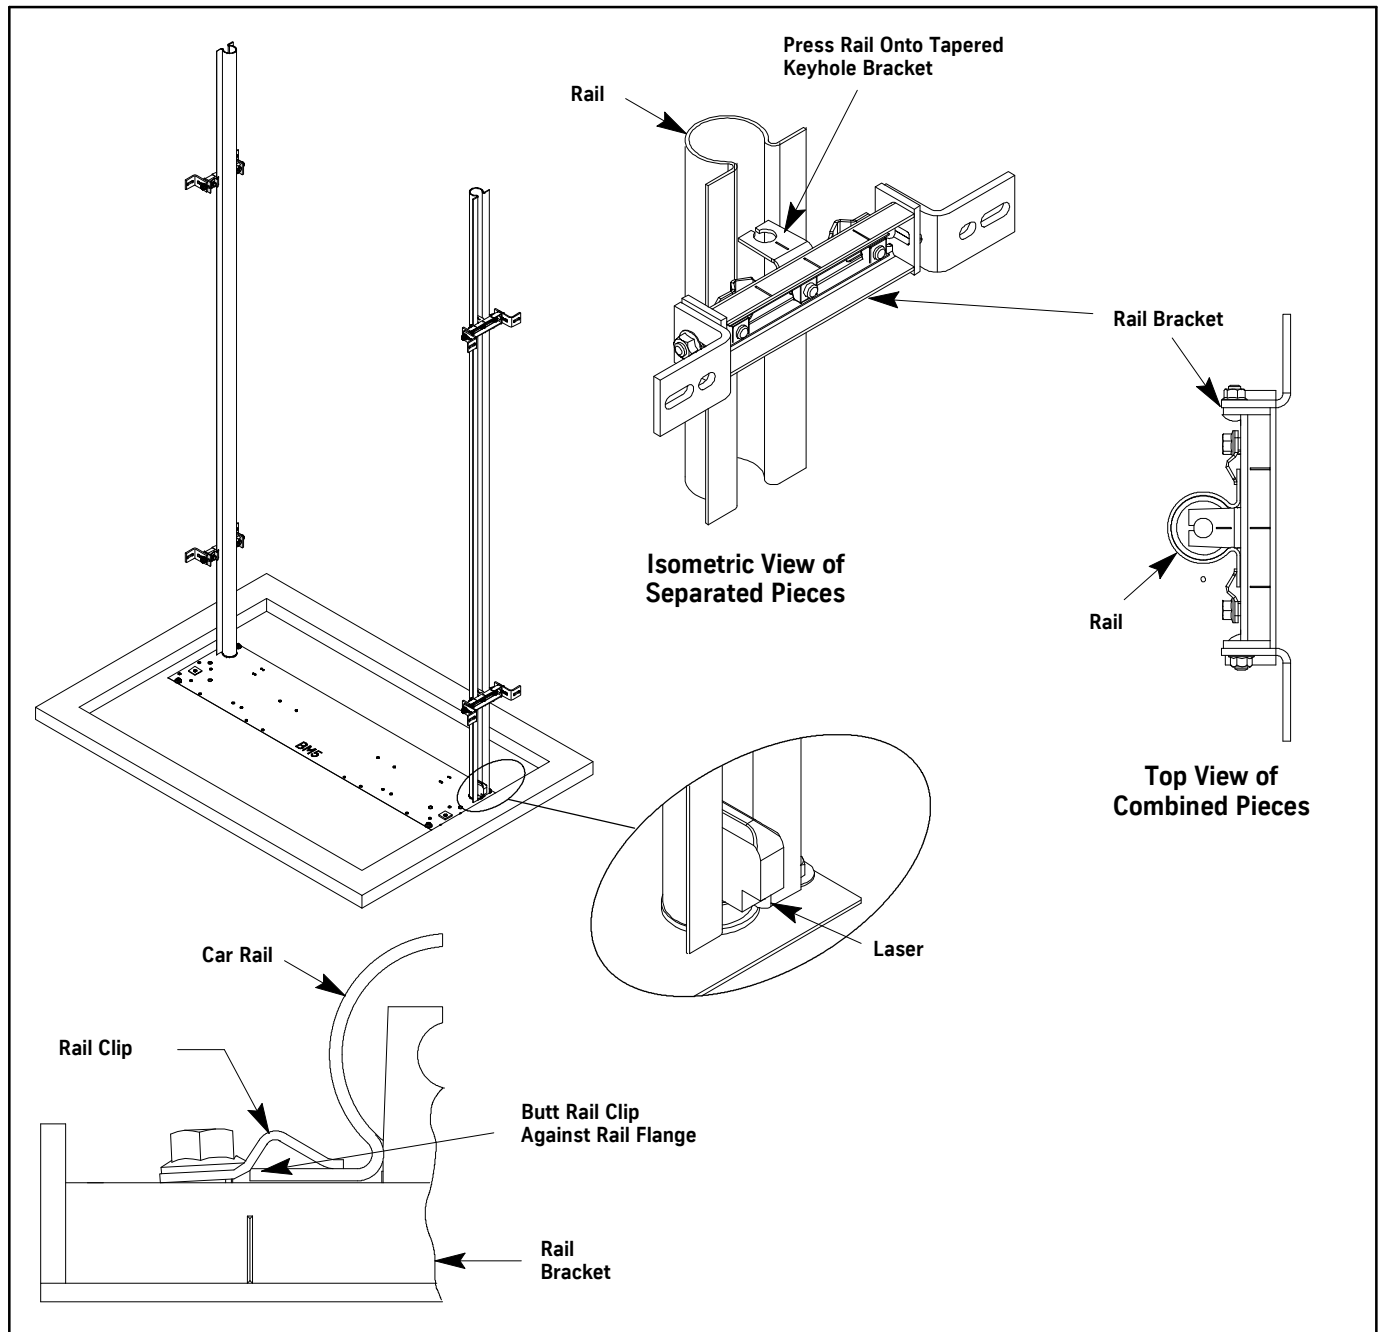

Figure 6 - Car Rail Installation
2. Press the rail onto the tapered keyhole brackets. See Figure 6.
3. Attach the rail to the bracket using the slip clips provided. See Figure 6.
4. Tighten the clips with the heel of the clip butted against the rail. See Figure 6.